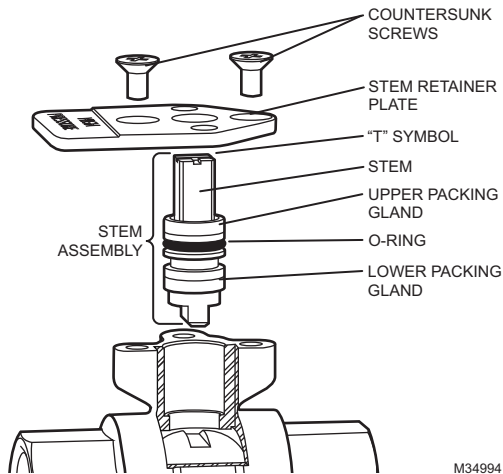

Fig. 33. Replacing the valve stem in-line.
The valve stem can be replaced in-line, if necessary. See Fig. 33.
7. Slide the sub shaft over the stem with the tab oriented as shown in Fig. 33.